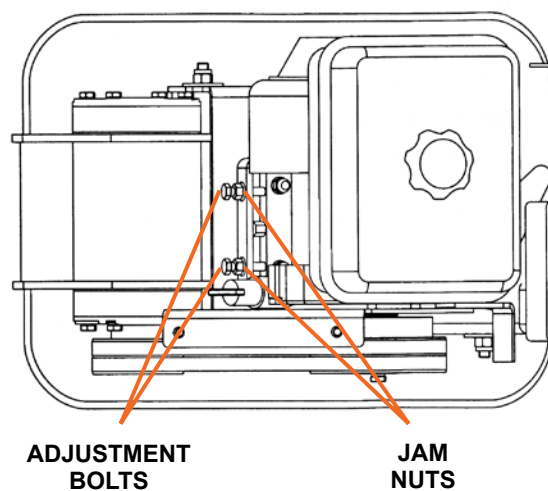

Figure 10
2. Loosen the jam nuts leaving enough space between the nut and the bracket (see Figure 10).
2. Loosen the jam nuts and bolts (see Figure 10).